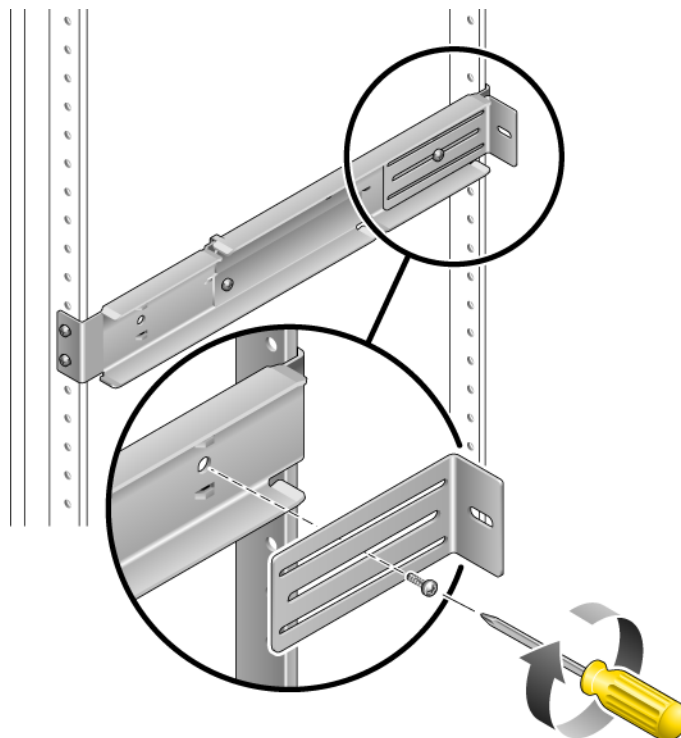

FIGURE 3-18 Installing the Rear Flange Onto the Adjustable Rail
8. Using one M5 × 10 SEM screw for each rear flange, loosely install the rear flange onto the rear of each of the adjustable rails (FIGURE 3-18).
- 12. Push the server to the desired depth in the rack, then go to the rear of the server and push the rear flanges flush against the back of the server (FIGURE 3-18).**
14. Set the rear flanges to the desired depth in the rack, then tighten the single $M5 \times 10$ SEM screw on each of the flanges to secure them to the adjustable rails (FIGURE 3-18).